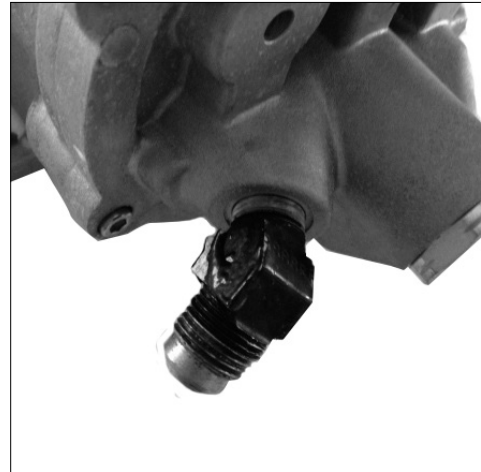

Figure 9: Return Fuel Fittings
**Step 3:** Remove existing return fuel fittings from bottom plate of Fuel Pro (Figure 9).